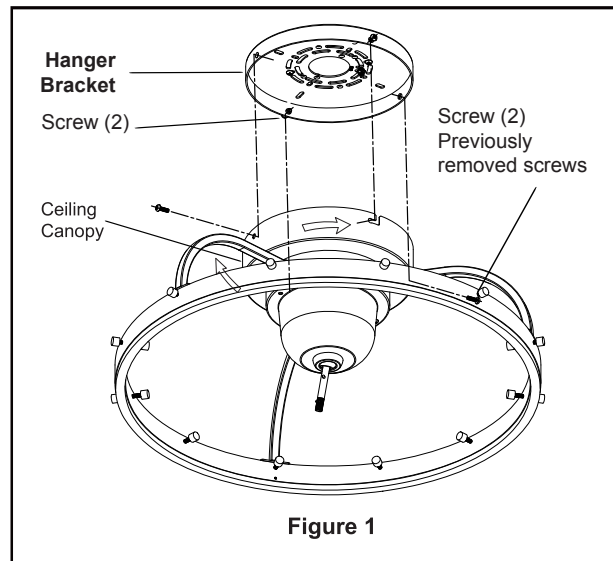

Figure 1
- First screw the key hole of the ceiling canopy into the two screws of the hanger bracket. Align the canopy hole with the screw hole of the hanger, Install using the 2 screws previously removed and lock in 4 screws to fix the canopy, taking care not to pinch the wires. Tighten screw. Securely attach and tighten the canopy screw cover over the shoulder screws in the Ceiling Canopy utilizing the key slot twist-lock feature. (Figure 1)
- pull out the hairpin. (Figure 1)
- **IMPORTANT:** Using a full range dimmer switch to control fan speed will damage the fan. To reduce the risk of fire or electrical shock, do not use a full range dimmer switch to control the fan speed. (Figure 1)